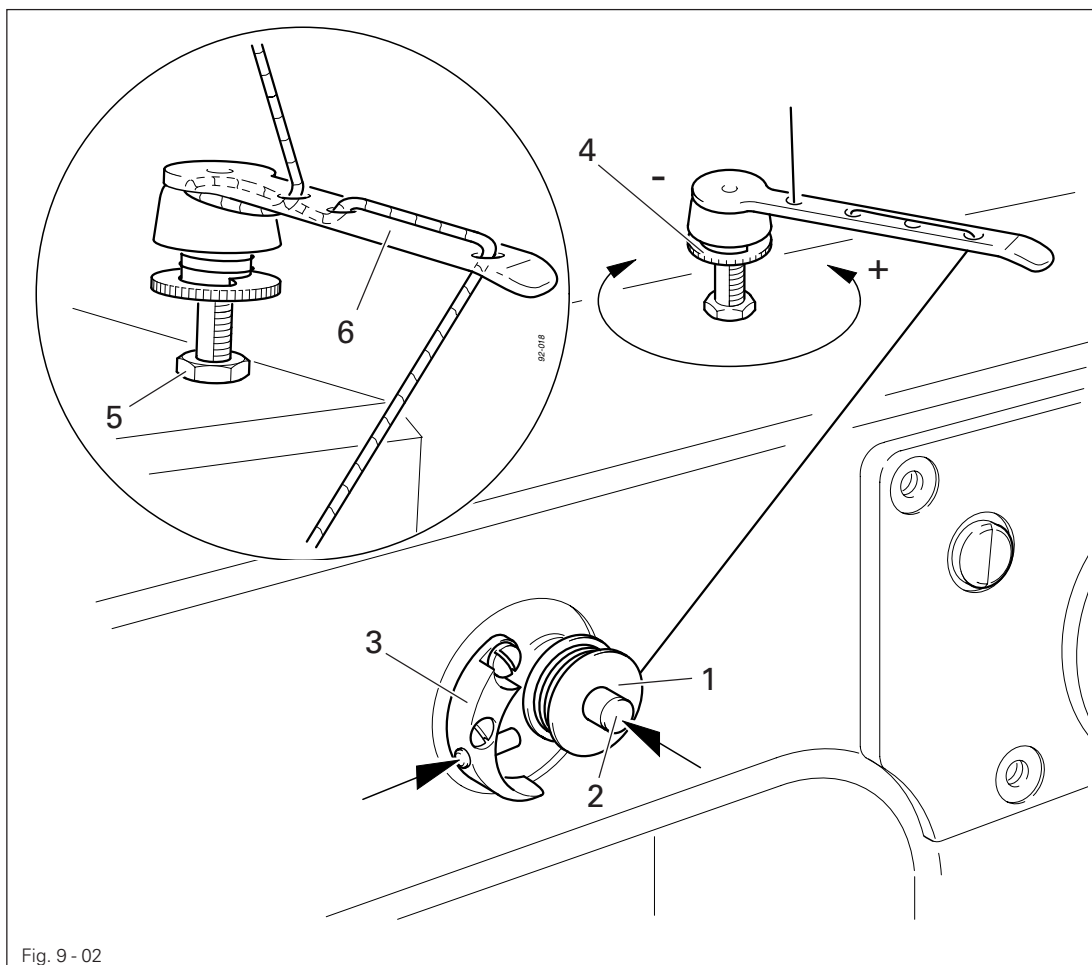

Fig. 9 - 02
- Thread the bobbin as shown in Fig. 9 - 02 and wind it clockwise around bobbin 1 a few times.